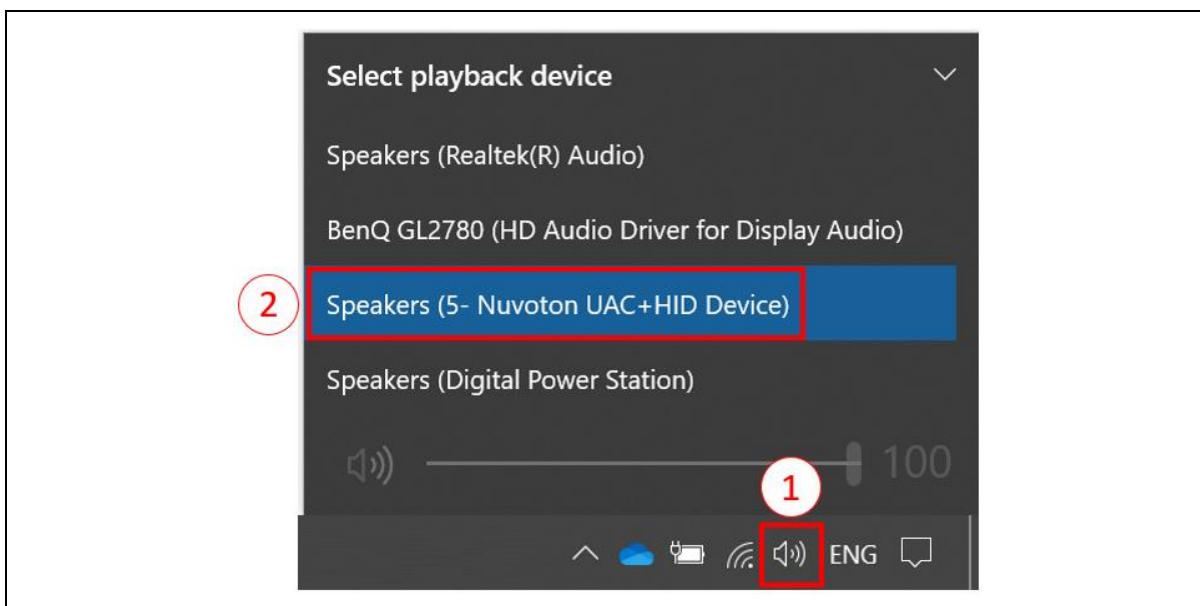

Figure 2-6 PC Audio Device Setting
4. Select the audio device on the PC as "Nuvoton UAC+HID Device". For example, under Win10 system, users can click the speaker icon on the bottom-right corner of the desktop and choose the device "Nuvoton UAC+HID Device," as shown in Figure 2-6. This will select "Nuvoton UAC+HID Device" as current playback device.